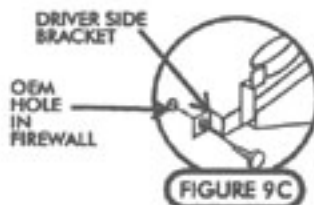

FIGURE 9C
- ATTACH DRIVER SIDE EVAPORATOR BRACKET TO THE OEM HOLE IN FIREWALL USING OEM HEATER SCREW AS SHOWN IN FIGURE 9C.